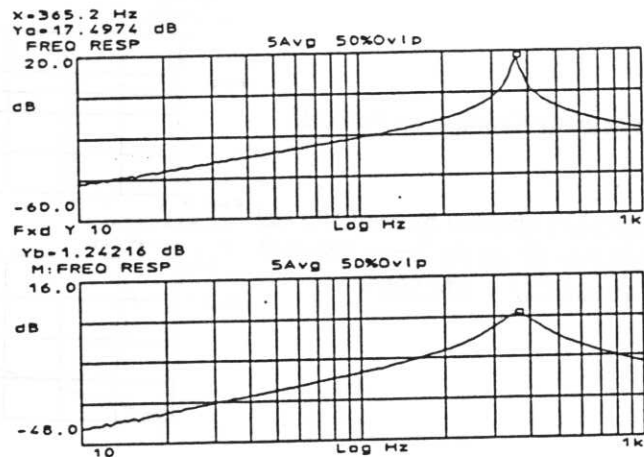

Figure 15-11. Calculating Open-Loop Response
T/1 - T calculates open-loop response from a measured closed-loop frequency response curve, as the example in figure 15-11 shows. To yield a valid result, the measured response (T) must be the active trace.